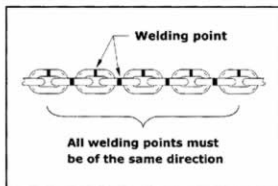

Fig.4.3
- Press the ④ push button to lower the hoist until the limit spring touches the limit switch, and the motor will stop automatically .
- Press the ⑤ button until the chain are totally in chain bag and the motor stops .
- Test the function of the emergency stop switch (if the emergency stop switch is selectively purchased)Press button ④ or ⑤ , and press the emergency stop switch at the same time to check whether the hook can stop immediately .When the emergency switch is pressed ,there will be no response when any other button is pressed .Finally ,turn the emergency switch in clockwise and it will bounce back to the original position .When it bounces back, the hoist can be operated again ,if any of the above -mentioned tests is abnormal , it is required to check the distribution circuit and the self-locking of the emergency switch .
- Check the direction of chain .All welding points should be of the same direction .(Fig 4.3). The operation can not be utterly proper unless all the welding points of chain are in the same line .